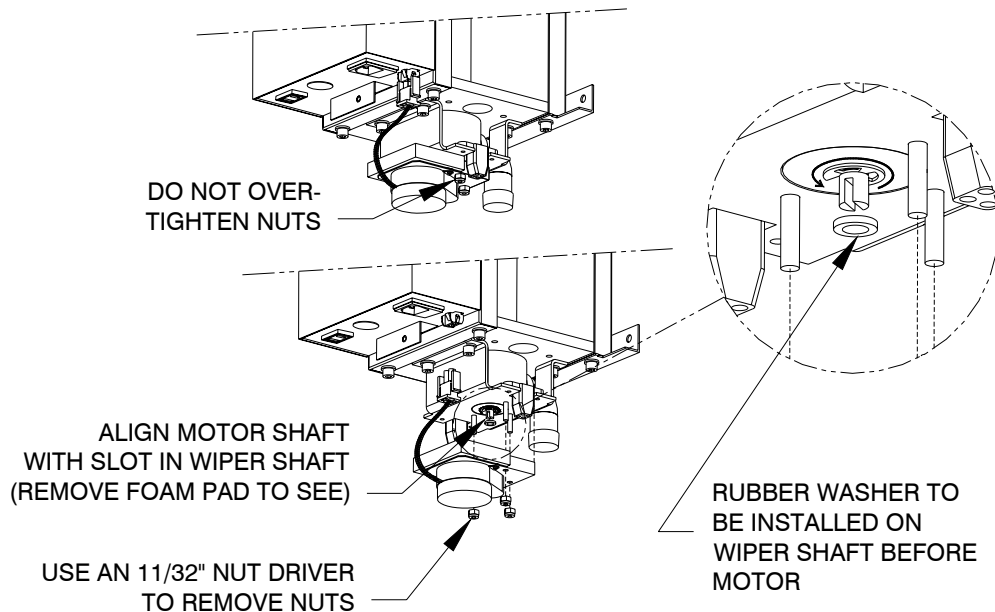

Figure 4C
Step 5: Use the 3/16" Hex wrench to remove the top bracket (1) by undoing the four fasteners in an alternating pattern (top left, bottom right, bottom left, then top right). The bottom bracket does not require removal to clean the quartz, so leave it in place. This will support the quartz sleeve during cleaning and simplify the overall process.
Step 6: Remove the top end cap (2) by lifting it straight up.
Step 7: Disconnect the wiper motor (17) from the bottom bracket (4) by undoing the three nuts. See Figure 4C. Pull off the motor plate and foam pad (21) from the mounting standoffs and unplug the motor. Set the motor aside, holding it by the body, not the wires. **Do not place the motor in any location where it can be exposed to moisture.**